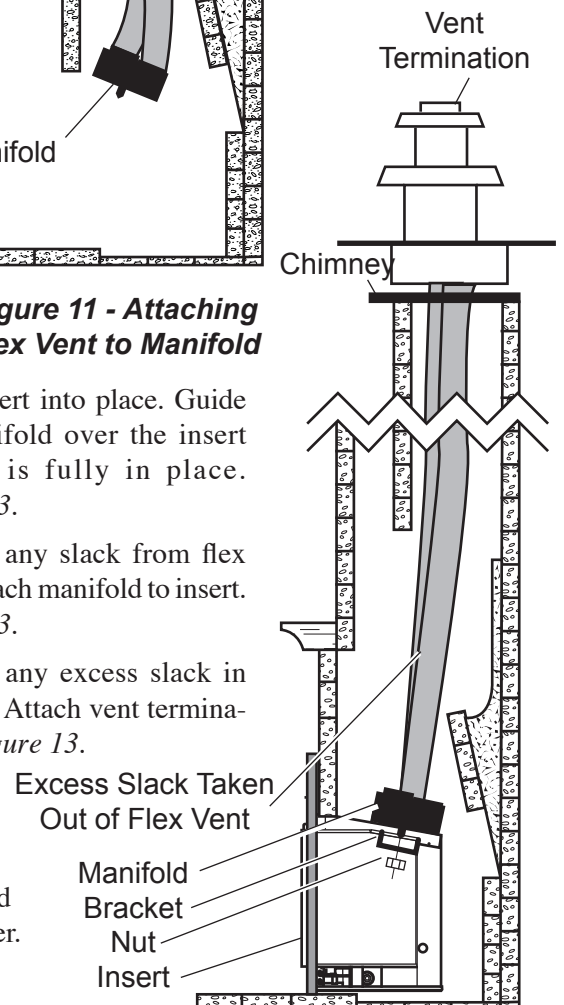

Figure 13 - Sliding Insert Into Place
6. Slide insert into place. Guide the manifold over the insert until it is fully in place. *Figure 13*.
7. Remove any slack from flex vent. Attach manifold to insert. *Figure 13*.
8. Remove any excess slack in flex line. Attach vent termination. *Figure 13*.